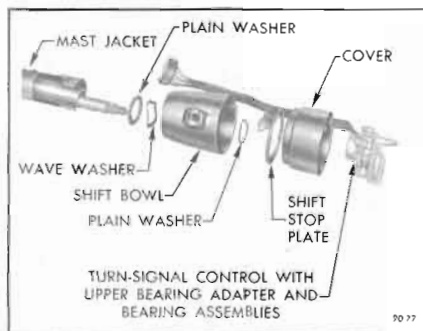

Figure 90-77—Disassembly of Upper Portion of Automatic Transmission Mast Jacket (43-44000 Series)
9. On 43-44000 Series twist steering column cover in a counterclockwise direction and lift out turn signal control with upper bearing adapter and bearing assemblies, cover, shift stop plate, washer, and shift bowl. See Figures 90-77 and 90-78. On 45-46-48-49000 series it is not necessary to turn column over.